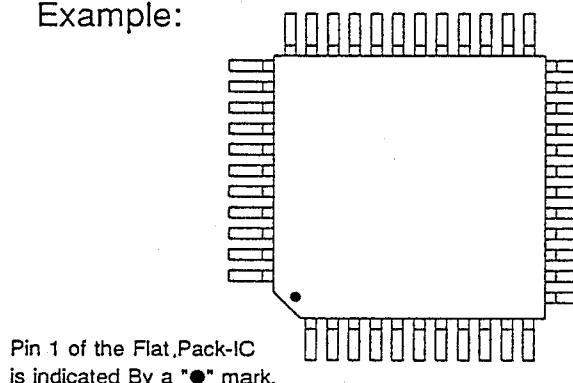

Fig. S-1-6
(2) The "●" mark on the flat pack-IC indicates pin 1. (See Fig. S-1-6) Be sure this mark matches the 1 on the PCB when positioning for installation. Then pre -